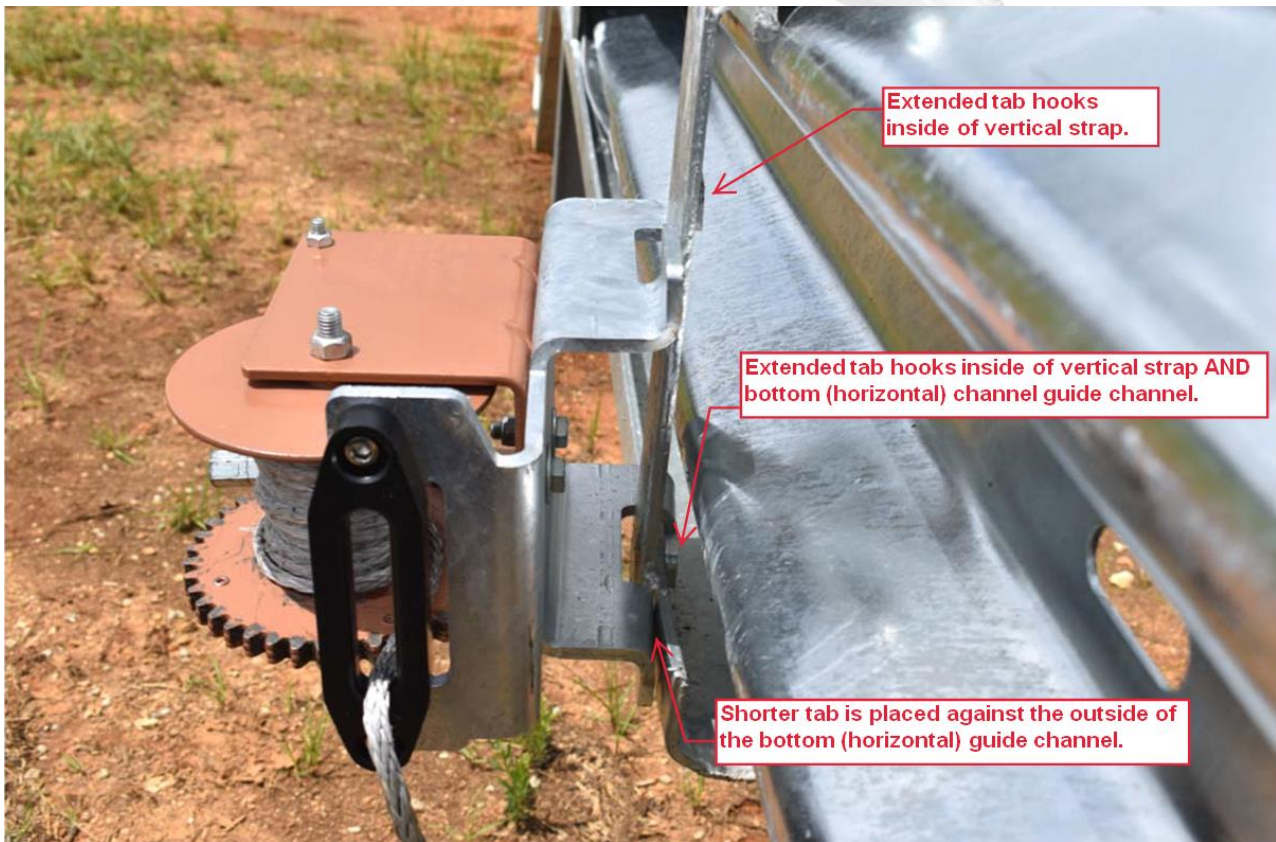

Figure 2
8. Hook winch mount assembly onto the vertical strap of SoftStop® System Impact Head and slide down to engage the bottom guide (horizontal) channel with the extended tab of the Winch Bracket on the inside of the channel and the shorter tab on the outside of the channel. The cable side of the winch mount assembly must point toward post 2. Ensure that winch mount stays engaged in the bottom channel of the SoftStop® System Impact Head. See Figure 2 on page 2 of this document.